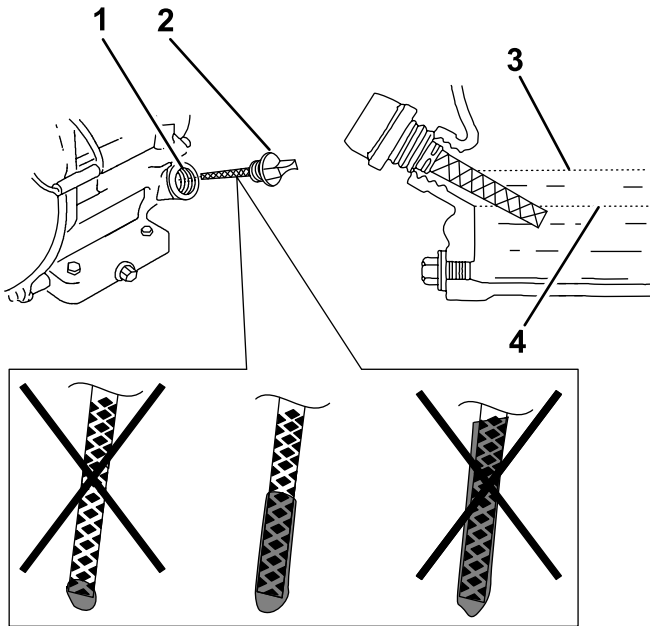

Figure 44
1. Remove the dipstick (Figure 44) and slowly pour oil into the fill hole until the oil reaches the upper-limit mark (bottom edge of the oil-fill hole) on the dipstick.